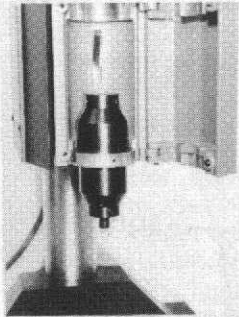

figure 3
4. Place the booster with the stud facing downward in the housing with the mounting ring resting on the lower support lip [Figure 3].